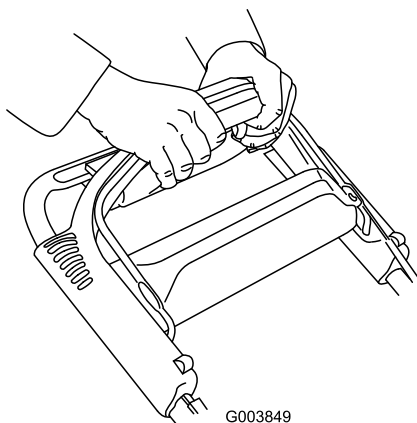

Figure 22
2. Squeeze the 2 handles together (Figure 22) until the mower reaches your desired ground speed.